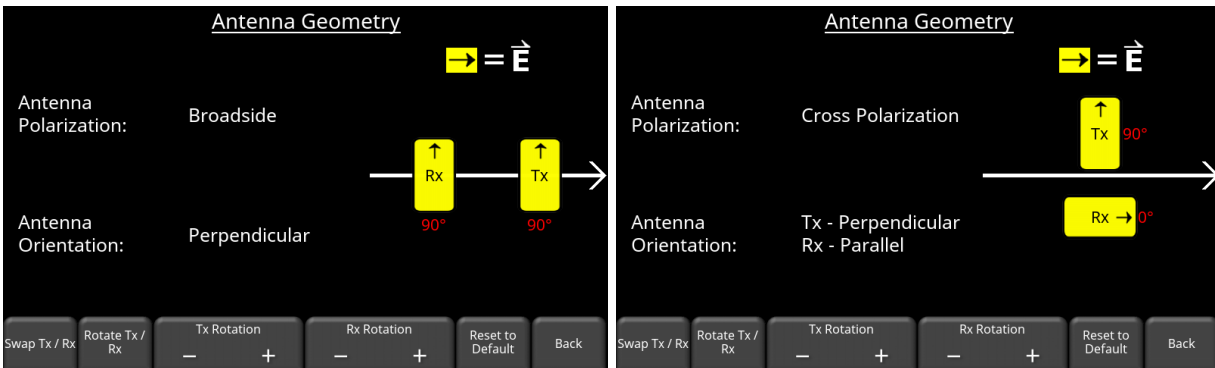

Figure 6-28: Advanced menu for setting antenna orientation
Press **Advanced** to display the change the bottom menu as shown in Figure 6-28. This allows the user to control the placement and rotation of each antenna. The black arrow shown represents the direction of the Electric Field vector (E).